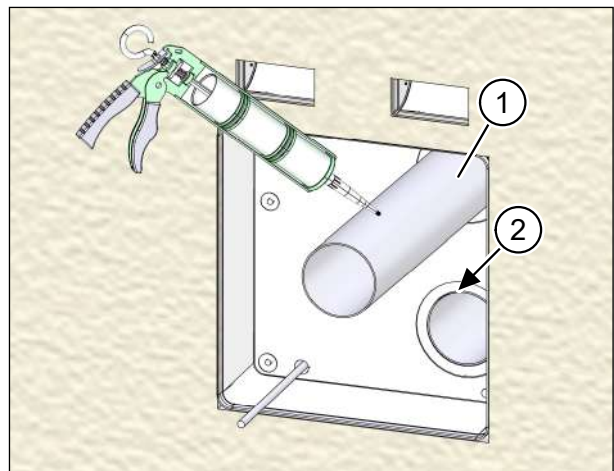

Fig. 36: Inserting and fixing the ventilation pipes
- ▶ Apply permanently elastic sealant to the outer skin of the ventilation pipes (item 1 in Fig. 36).
- ▶ Using a twisting motion, push the two ventilation pipes into the openings in the installation kit until they end flush with the inside of the installation kit (item 2 in Fig. 36).